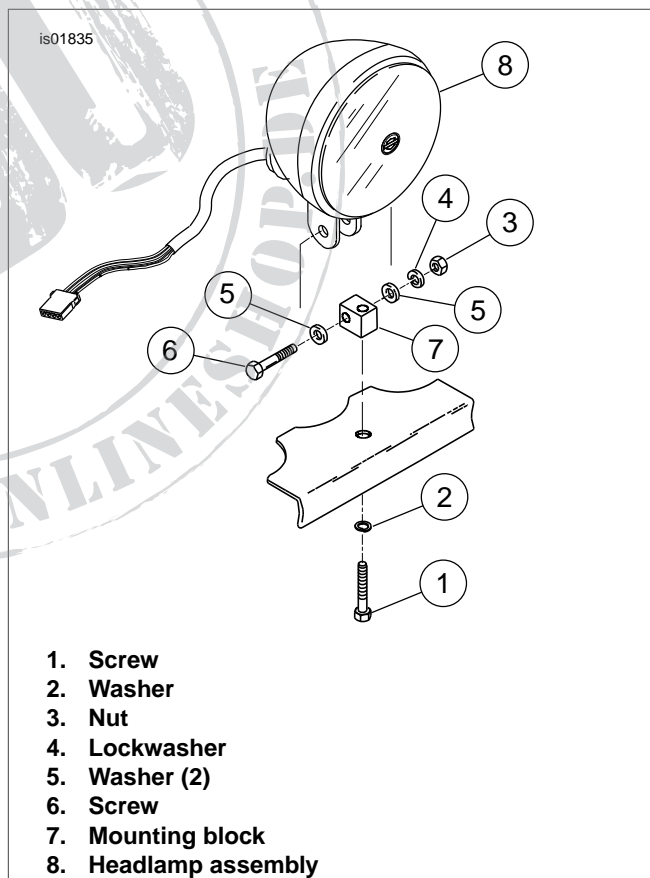

Figure 1. Softail and Dyna Headlamp Assembly with Mount (except FXSTD)
4. *All Softails (except FXSTD):* See Figure 1. Remove screw (1) and washer (2) from stem and bracket. Discard screw but save washer for later use.
5. Remove and discard mounting block (7) and headlamp assembly (8).
6. See Figure 1. Remove screw (1) and washer (2) from stem and bracket. *2005-Earlier FXDWG:* Discard screw but save washer for later use. *2006-Later FXD:* Save screw and washer for later use.
7. Remove and discard nut (3), washers (4), and screw (5).
8. Remove and discard mounting block (6) and headlamp assembly (7).